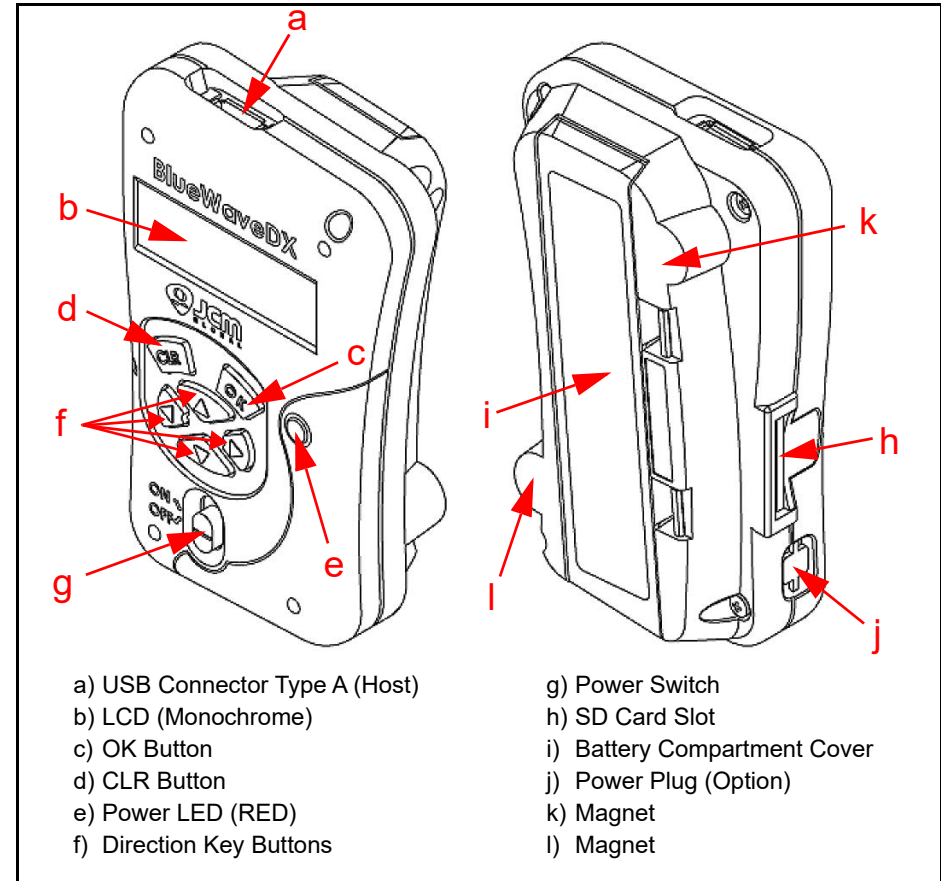

Figure 2 BlueWave™DX Tool Primary Components
Figure 2 illustrates the BlueWave™DX Tool's Primary Component Features.
1. Press the UP and DOWN Arrow keys to select LANGUAGE from the Menu (refer to **Figure 2 f** on page 3).
2. Press the OK button (refer to **Figure 2 c** on page 3).
4. Press the CLR button to return to the Main Menu (refer to **Figure 2 d** on page 3).
1. Connect a USB Cable between the Acceptor, Validator, Printer or other device and the BlueWave™DX Tool's USB Type A Connector (refer to **Figure 2 a** on page 3).
3. Slide the BlueWave™DX Tool's Power Switch to the ON position (refer to **Figure 2 g** on page 3).
4. Press the UP and DOWN Arrow Keys to select the desired function (refer to **Figure 2 f** on page 3).
5. Press the LEFT and RIGHT Arrow Keys to scroll through and select the desired data (refer to **Figure 2 f** on page 3).
6. Press the CLR button to navigate back to the previous screen (refer to **Figure 2 d** on page 3).
2. To enter the Firmware Update Mode, press and hold the UP and DOWN Arrow keys (refer to **Figure 2 f** on page 3) while sliding the Power Switch to the ON position (refer to **Figure 2 g** on page 3).
3. Press the OK button to update Firmware (refer to **Figure 2 c** on page 3).
2. Press and hold the LEFT and RIGHT Arrow keys (refer to **Figure 2 f** on page 3) while sliding the Power Switch to the ON position (refer to **Figure 2 g** on page 3).
3. Press the OK button to update the EEPROM (refer to **Figure 2 c** on page 3).
1. Press the UP and DOWN Arrow keys to highlight ICB Function in the Menu (refer to **Figure 2 f** on page 3).
2. Press the OK button to select the ICB Function (refer to **Figure 2 c** on page 3).
- b). Press the LEFT and RIGHT Arrow keys to select the desired status (refer to **Figure 2 f** on page 3).